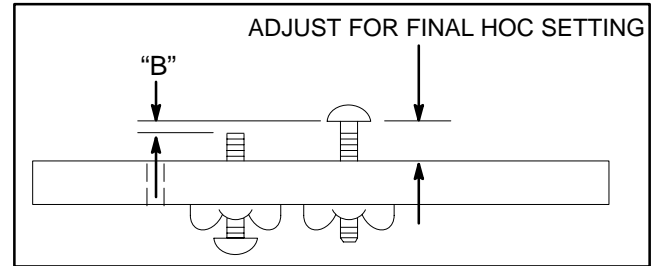

Figure 18
1. Set front screw height to final height-of-cut setting (Fig. 18).
2. Set rear screw, distance "B", lower than front setting (Fig. 18).